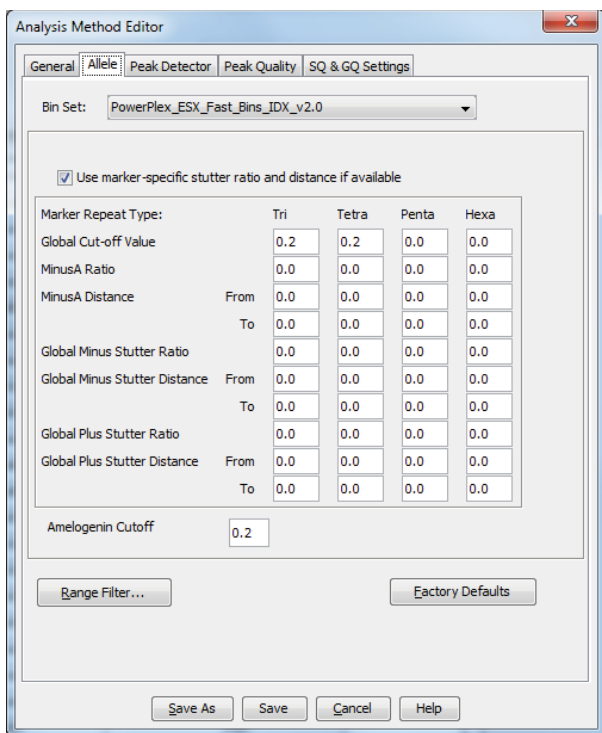

Figure 15. The GeneMapper® ID-X 'Allele' tab with settings for using a 20% peak filter.
6. Select the 'Allele' tab (Figure 15).
8. We recommend the values shown in Figure 15 for proper filtering of stutter peaks when using the PowerPlex® ESX 16 Fast System. Ensure that the "Use marker-specific stutter ratio and distance if available" box is checked. Doing this will assign locus-specific stutter filters and distances from the imported stutter file. Ensure that the appropriate global filter is applied to this analysis method. For example, for a 20% filter enter "0.20" for the Amenogenin Cutoff and Global Cutoff Value for Tri and Tetra repeats (Figure 15). In-house validation should be performed.